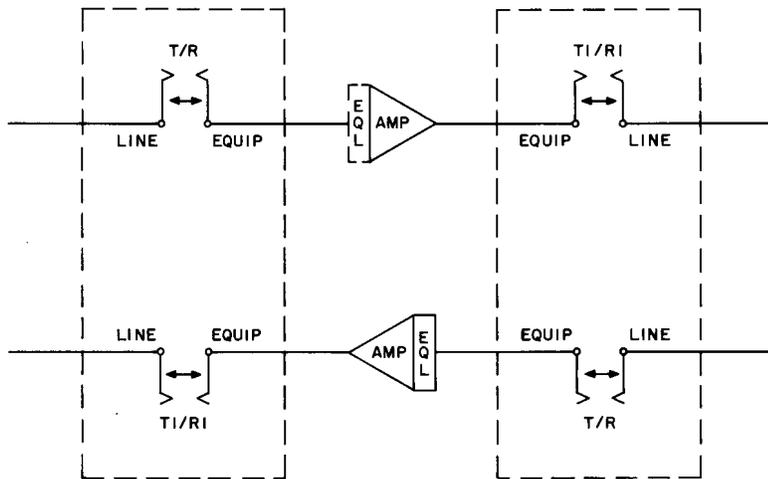

Fig. 5—Test Configuration for 4-4 Terminal or Intermediate Repeaters
3.09 The procedures for adjustment of either 4-4 repeater are identical and Fig. 5 illustrates the test configuration for gain or level adjustment. Chart 4 describes the procedures for 4-4 repeater unit gain adjustment.